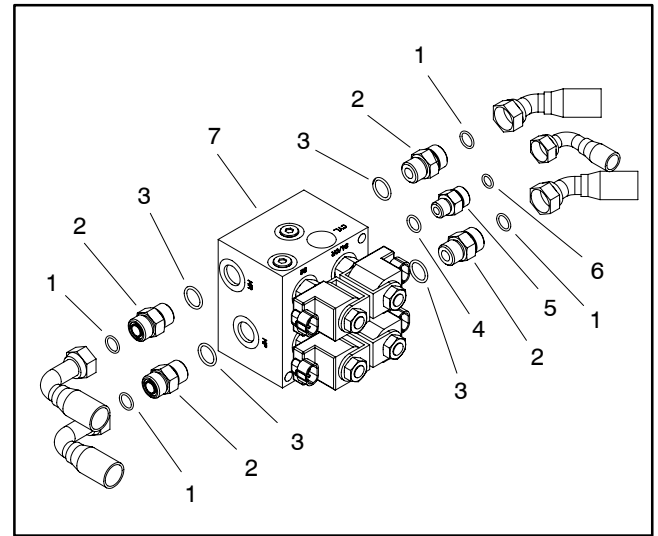

Figure 13
7. Support control manifold to prevent it from falling. Remove two (2) cap screws, flat washers and lock nuts that secure hydraulic manifold to the frame mounting bracket.
9. Remove hydraulic fittings from manifold as needed (Fig. 13). Discard any removed o-rings.